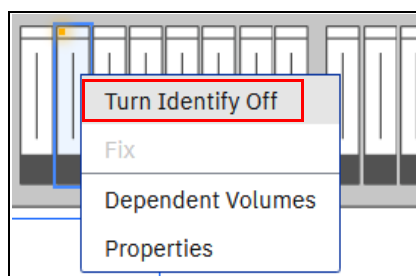

Figure 4-37 Turning off the Identify LED
3. After the confirmation, click **Turn Identify Off** (see Figure 4-37).